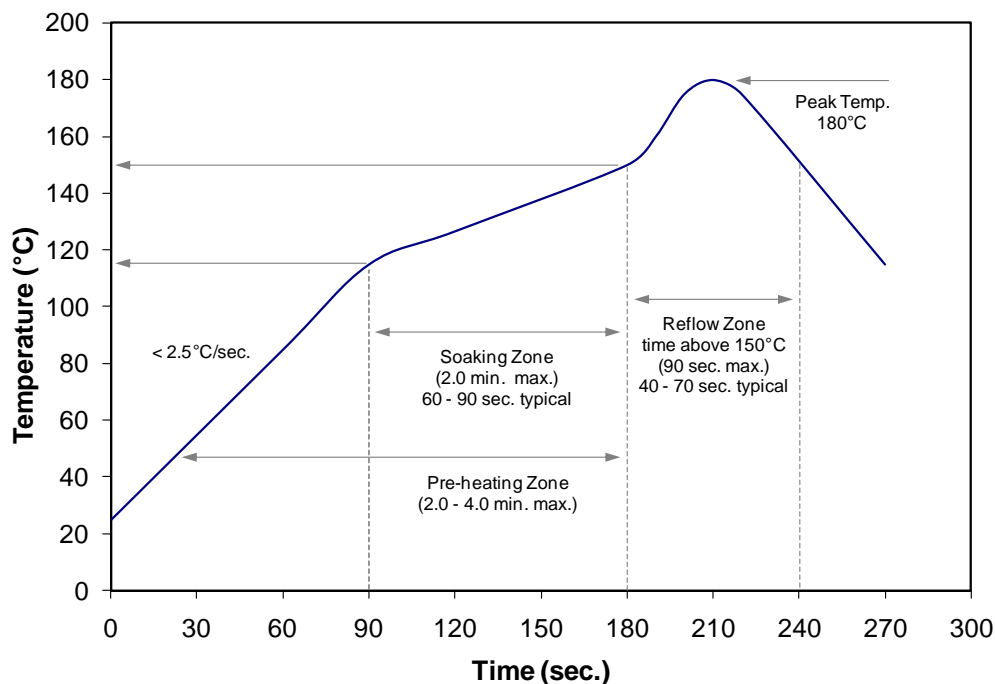

Figure 3: Reflow soldering profile for low temperature lead free soldering.
- Use low temperature solders. LED Engin recommends 58Bi-42Sn (wt.%) Solder. See Reflow Soldering Profile Figure 3.
Notes for Figure 3: